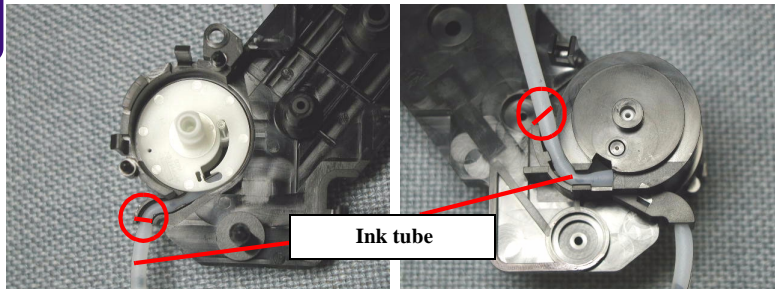

Figure 4-60. Marking position on the Ink tube
- Make sure to set the marking position of the ink tube to the suitable position of the Pump frame. (Refer to Figure 4-60)